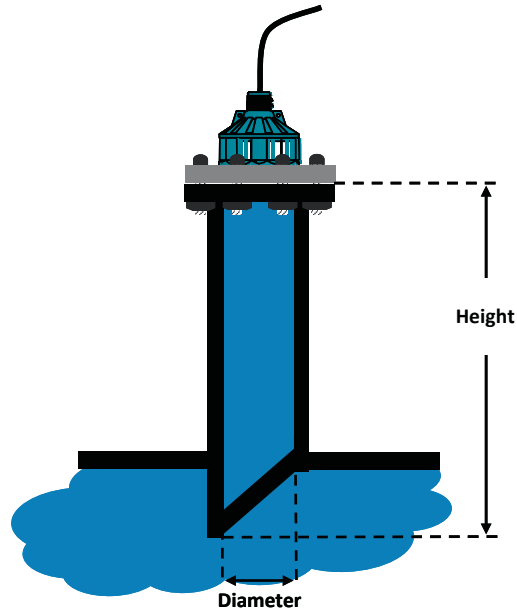

Figure 2.1
- When considering the height to diameter ratio, ensure the standpipe inside the vessel is included (Figure 2.1).
- Ideally, the standpipe nozzle should be cut at a 45° angle as shown in Figure 2.1.